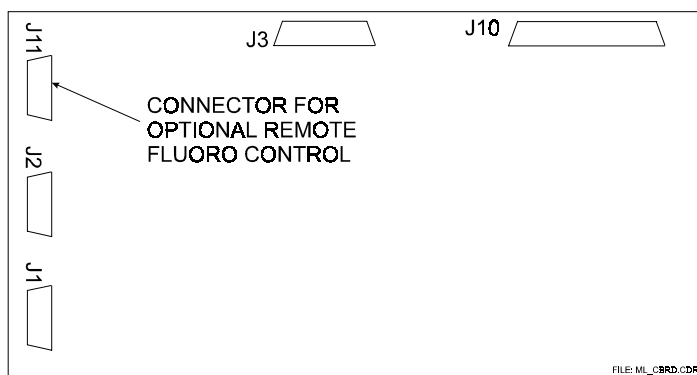

Figure 2-4: Remote fluoro connector on generator CPU board
1. Connect the free end of the 9 conductor remote fluoro cable (from the optional remote fluoro control box) to J11 of the generator CPU board. Ensure that the screw locks are fully tightened to secure the connector. Refer to figure 2-4 for the location of J11 on the generator CPU board.